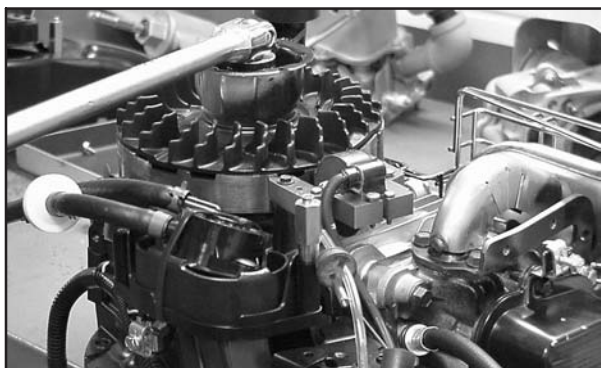

Fig. 18 – Holding The Flywheel
4. Hold flywheel nut with 15/16" socket and 1/2" breaker bar (Figure 18).